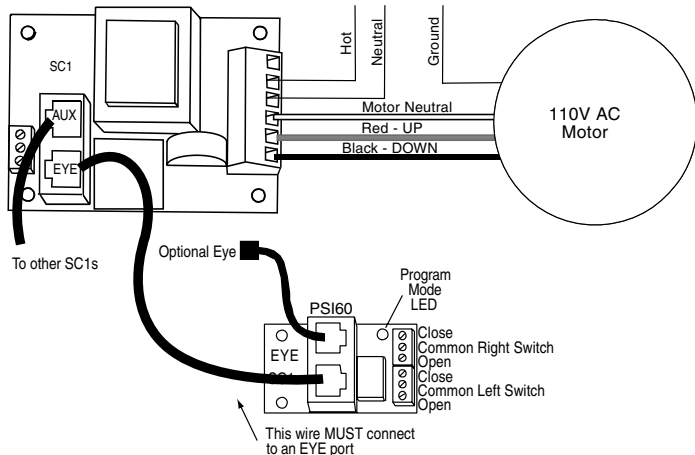

Figure 1
- ① Connect the PSI60 to the SC1 network (see Fig. 1).